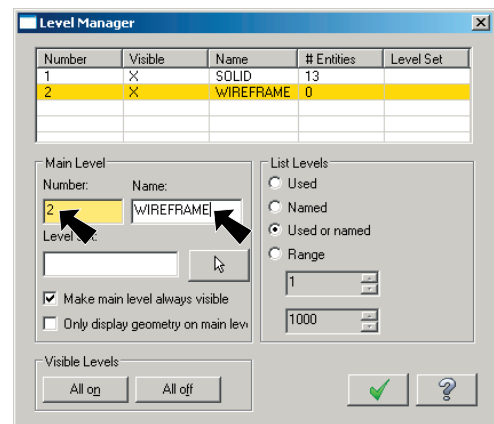

Fig. 19
Step 3. Press **Shift-Tab** key (hold down the Shift key and press Tab key) to move back to the Number Field and key-in **2**, Fig. 19.
Step 4. Press Tab key to move to the Name Field and key-in **WIREFRAME**, Fig. 19.